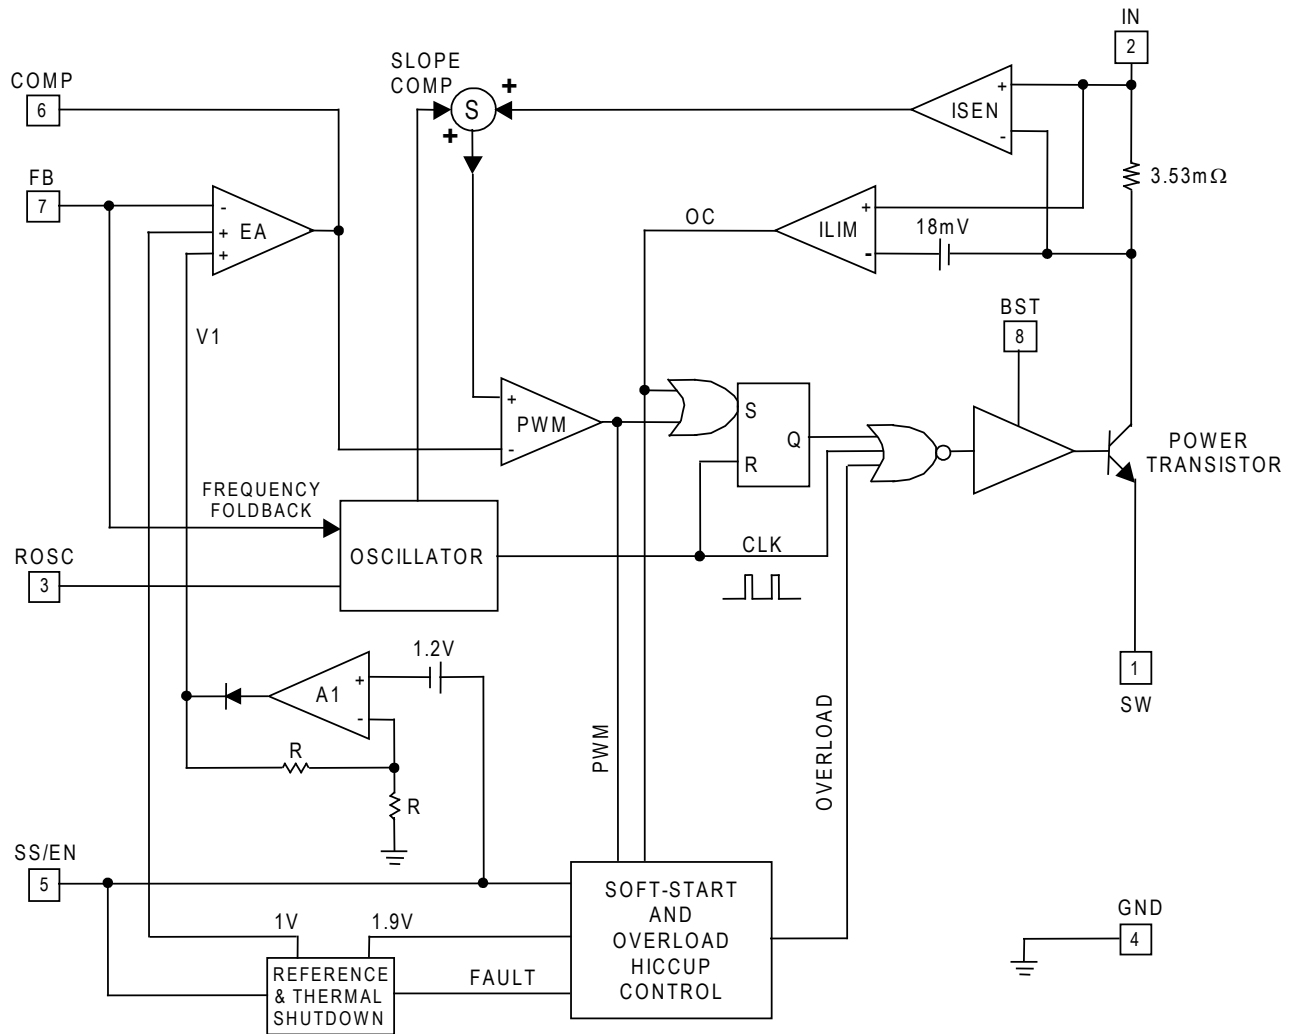

Figure 2 — SC4525E Block Diagram
As shown in Figure 2, the switch collector current is sensed with an integrated 3.53mΩ sense resistor. The sensed current is summed with a slope-compensating ramp before it is compared with the transconductance error amplifier (EA) output. The PWM comparator trip point determines the switch turn-on pulse width. The current-limit comparator ILIM turns off the power switch when the sensed signal exceeds the 18mV current-limit threshold.
The error amplifier EA in Figure 2 has two non-inverting inputs. The non-inverting input with the lower voltage predominates. One of the non-inverting inputs is biased to a precision 1V reference and the other non-inverting input is tied to the output of the amplifier A_1 . Amplifier A_1 produces an output $V_1 = 2(V_{SS/EN} - 1.2V)$. V_1 is zero and COMP is forced low when $V_{SS/EN}$ is below 1.2V. During start up, the effective non-inverting input of EA stays at zero until the soft-start capacitor is charged above 1.2V. Once $V_{SS/EN}$ exceeds 1.2V, COMP is released. The regulator starts to switch when V_{COMP} rises above 0.4V. If the soft-start interval is made sufficiently long, then the FB voltage (hence the output voltage) will track V_1 during start up. $V_{SS/EN}$ must be at least 1.83V for the output to achieve regulation. Proper soft-start prevents output overshoot. Current drawn from the input supply is also well controlled.
becomes armed. As the load draws more current from the regulator, the current-limit comparator ILIM (Figure 2) will eventually limit the switch current on a cycle-by-cycle basis. The over-current signal OC goes high, setting the latch B₃. The soft-start capacitor is discharged with (I_D - I_C) (Figure 3). If the inductor current falls below the current limit and the PWM comparator instead turns off the switch, then latch B₃ will be reset and I_C will recharge the soft-start capacitor. If over-current condition persists or OC becomes asserted more often than PWM over a period of time, then the soft-start capacitor will be discharged below 1.9V. At this juncture, comparator B₄ sets the overload latch B₂. The soft-start capacitor will be continuously discharged with (I_D - I_C). The COMP pin is immediately pulled to ground. The switching regulator is shut off until the soft-start capacitor is discharged below 1.0V. At this moment, the overload latch is reset. The soft-start capacitor is recharged and the converter again undergoes soft-start. The regulator will go through soft-start, overload shutdown and restart until it is no longer overloaded.
The PWM latch in Figure 2 is reset every cycle by the clock. The clock also turns off the power transistor to refresh the bootstrap capacitor. This minimum off time limits the attainable duty cycle of the regulator at a given switching frequency. The measured minimum off time is 138ns typically. If the required duty cycle is higher than the attainable maximum, then the output voltage will not be able to reach its set value in continuous-conduction mode.